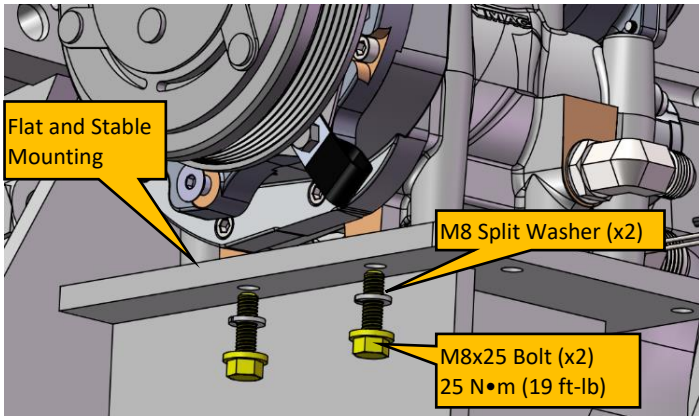
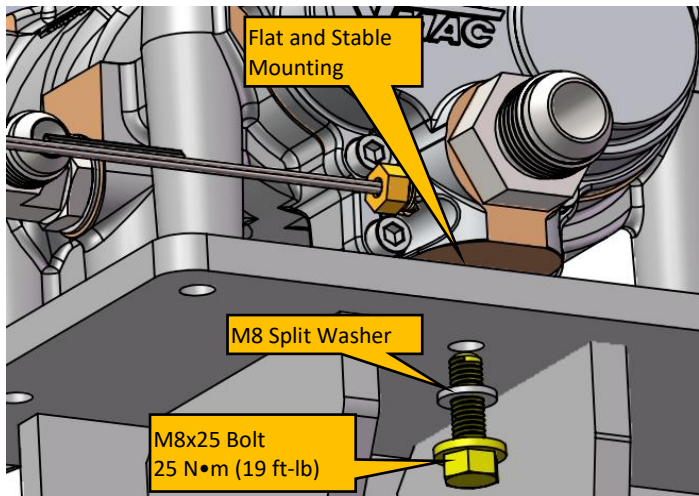

Figure 1: Front Compressor Mounting
Figure 2: Rear Compressor Mounting
- Place the compressor on the pedestal and fasten using the three M8x25 bolts and split washers. Ensure compressor is mounted on a flat and stable surface the compressor mounting points all contact the pedestal. Leave the bolts a little loose for now to assist with alignment of bracket assembly to engine in the next steps. See Figure 1 and Figure 2 for mounting locations.